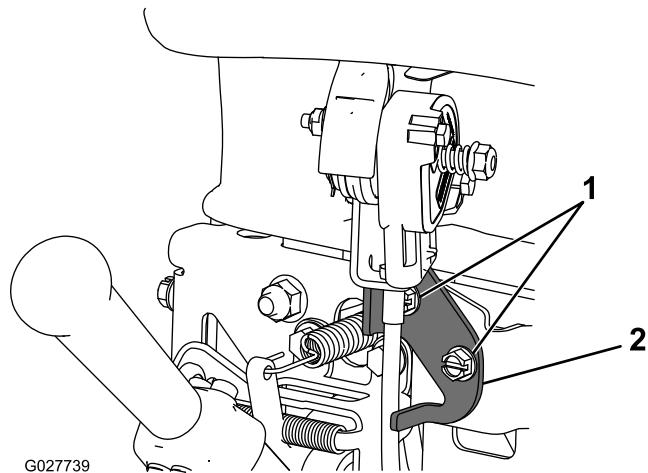

Figure 25
2. Loosen the 2 fasteners securing the throttle control (Figure 25).